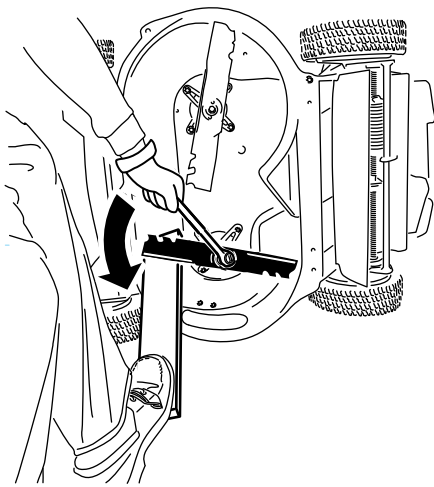

Figure 29
1. Use a block of wood to hold each blade steady and turn the blade bolt counterclockwise as shown in Figure 29.